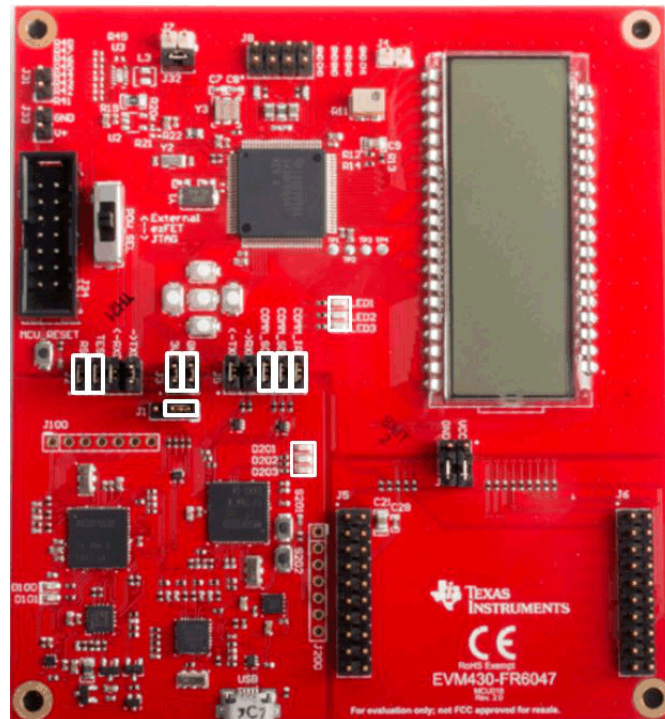

Figure 2. EVM430-FR6047 Jumper Settings
2. Connect the jumpers as shown in Figure 2. The COMM_IRQ, COMM_SDA, and COMM_SCL jumpers on the J5 header are required for communication with the GUI. TEST and RST jumpers on J2 are required to program the board. The POW_SEL switch should be in the middle position (ezFET), J1 in the right position, and both J3 jumpers set to use USB power. The jumper locations are highlighted in Figure 2.